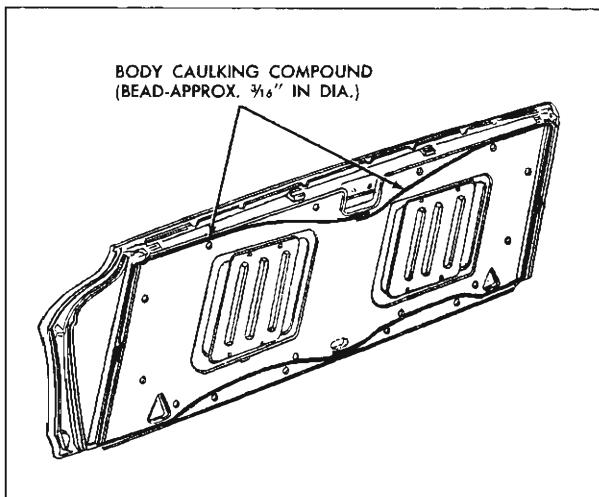

Fig. 5-20 Tail Gate Inner Panel
3. Apply a bead of body caulking compound (approximately $\frac{3}{16}$ " diameter) to tail gate inner panel (Fig. 5-20).